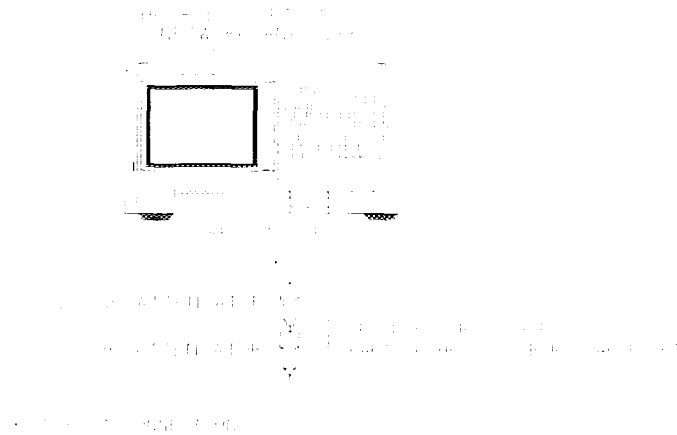

Figure 6-5. Receiver Minimum R Channel Level Test Setup
- 1 Connect the equipment as shown in Figure 6-5.